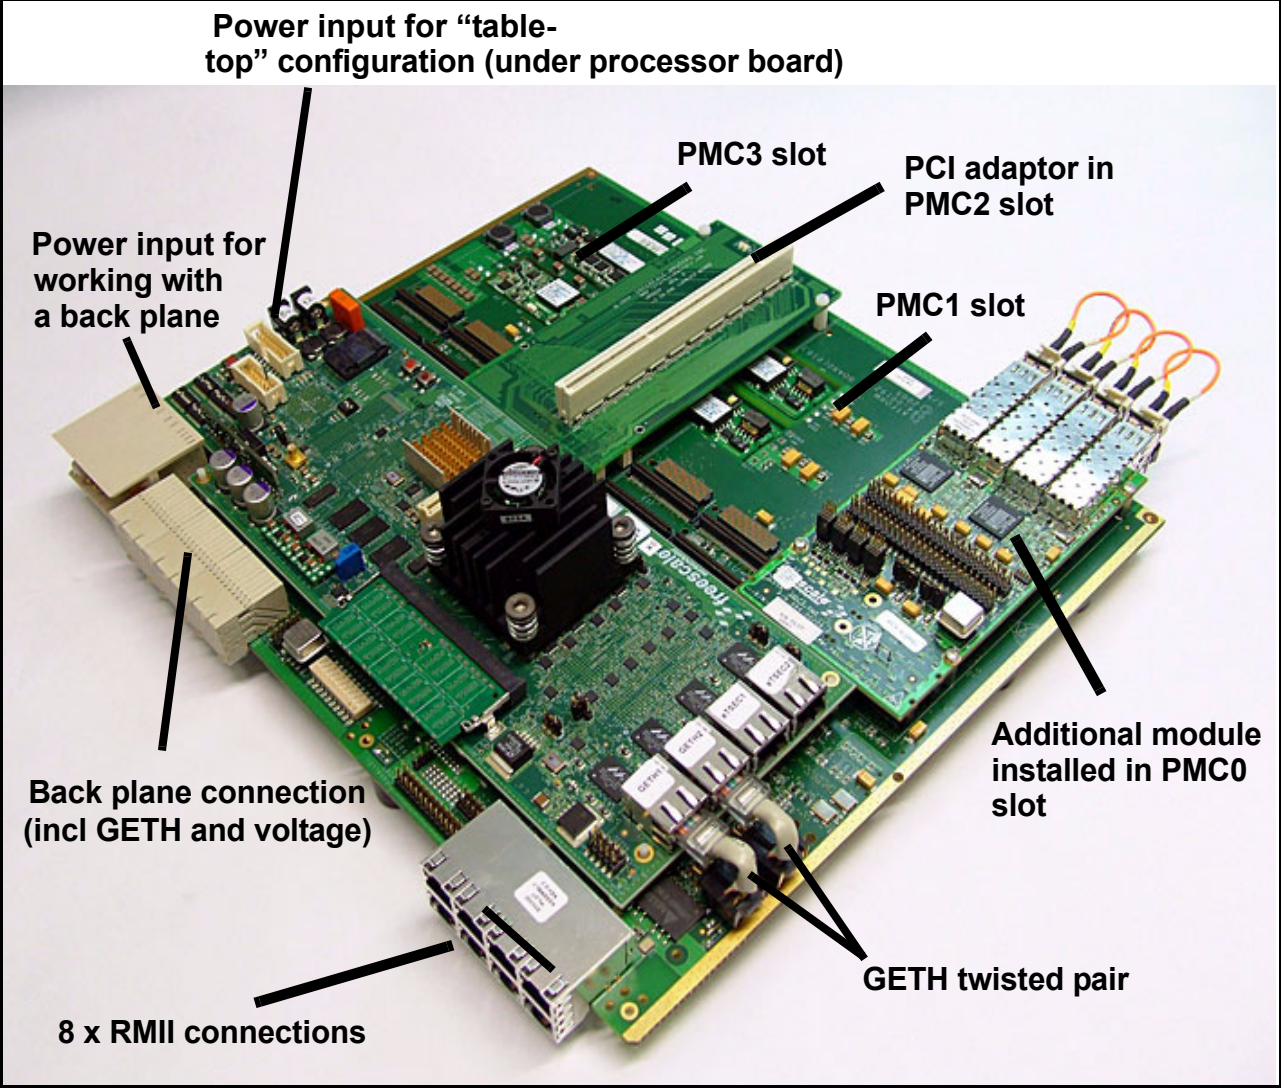

Figure 2-14. Fully Assembled Combined system: PIB, Processor Board, additional module, and PCI adaptor
9. A fully assembled PIB-Processor board combination is shown in Figure 2-14.
In Figure 2-14, one PCI adaptor and one additional module are shown installed on the PIB. The PCI adaptor is ready to receive any PCI-compatible board, including an 8Xxx Processor board. Using this system, these board(s) function as agents, while the Processor board already installed functions as a host. This allows you to take advantage of the parallel processing capabilities of the 8Xxx line of products.
3. Insert a PCI adaptor into the PIB (as shown in Figure 2-11 and Figure 2-12 on page 2-7) in the PMC slot in which you want to install the agent board. See Figure 2-14 (above) for indications of the PMC slot numbering.